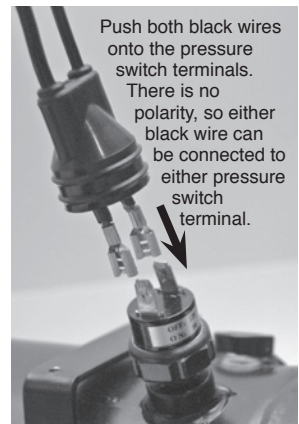

Fig. 8
- IMPORTANT:** It is recommended that both black wires be pushed forward so that the terminals are extending out of the rubber boot exposing the 1/4" female terminals (Fig. 8).
12. Select one of the black wires with the 1/4" female terminal, connect the terminal to the pressure switch. Repeat the procedure for the other black wire. **NOTE:** There is no polarity, so either black wire can be connected to either pressure switch terminal (Fig. 8).